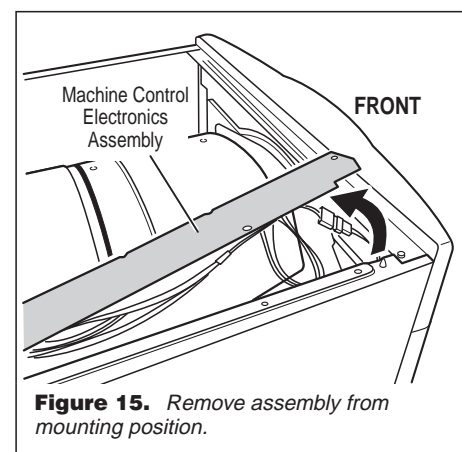

Figure 15. Remove assembly from mounting position.
1. After locating the machine control electronics, remove the three screws that hold the machine control bracket in place and remove assembly. See figure 15.